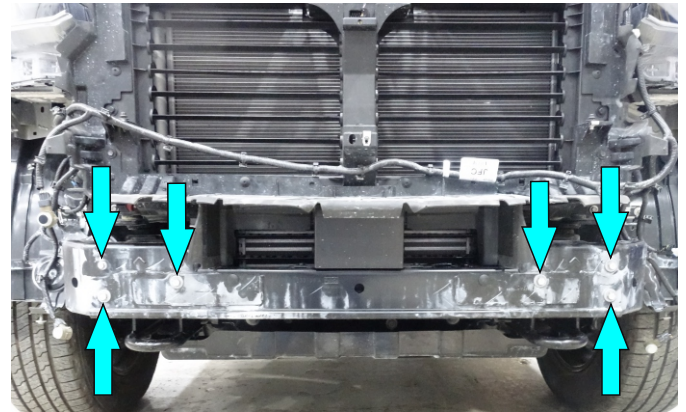

Fig.14
14. Unscrew bolts and remove factory crossmember (fig. 14).